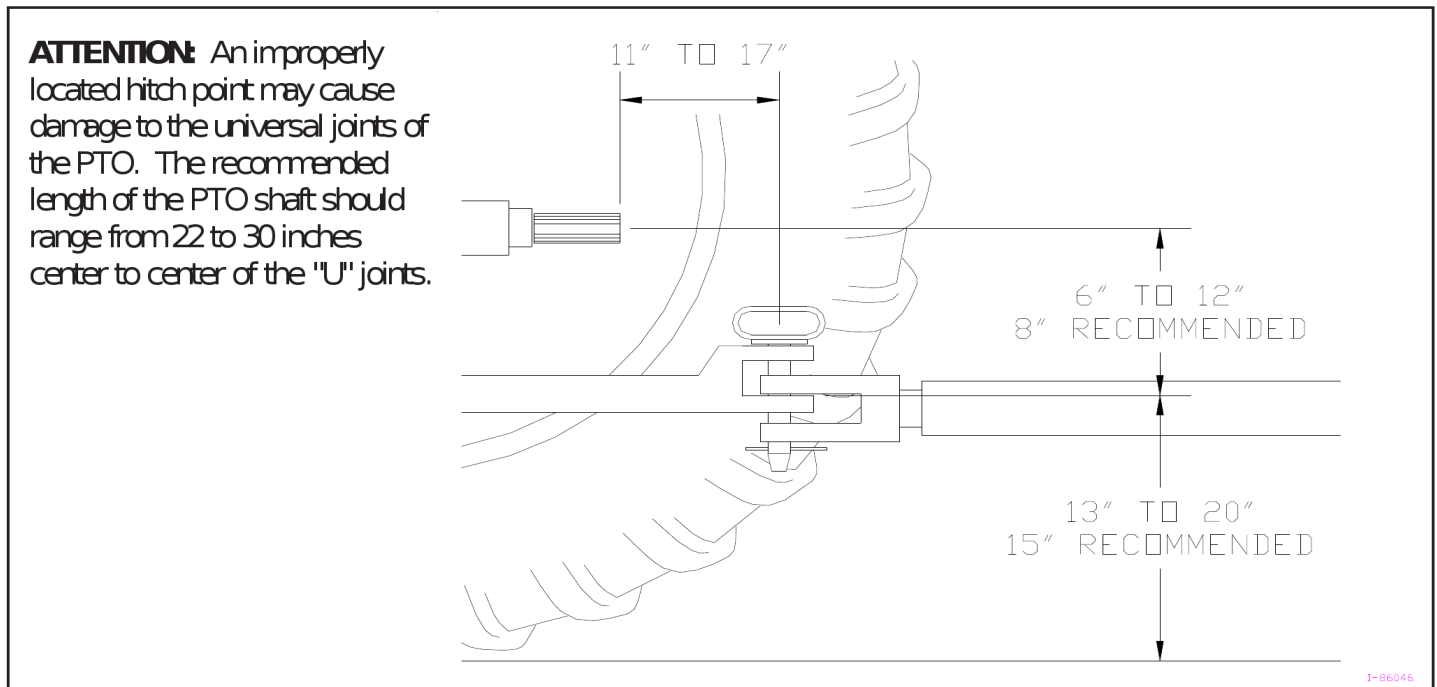

Figure 2A - Specifications for Connecting the Row Mulcher to the Tractor Drawbar
The row mulcher hitch is designed to work with a standardized tractor drawbar. To connect the row mulcher hitch to the tractor drawbar, refer to Figure 2A and adhere to the following guidelines:
- Extend or shorten the tractor drawbar to obtain the horizontal distance from the end of the tractor power take-off (PTO) shaft to the center of the hitch pin hole (as shown in Figure 2A).